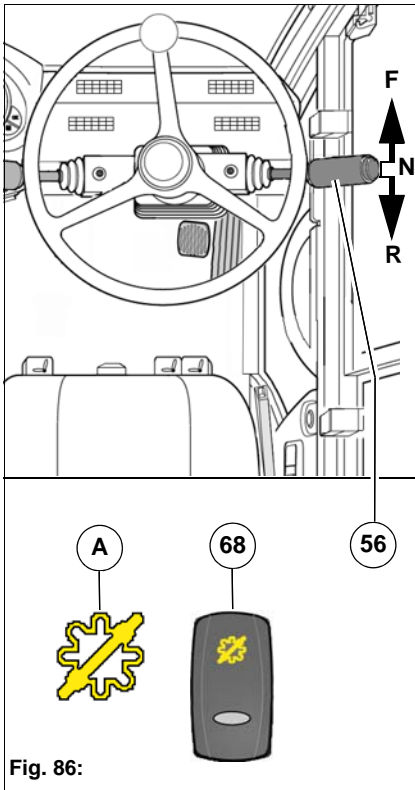

Fig. 86:
6. In order to recover the vehicle, the recovery switch **Fig. 86-68** must be actuated. The telltale in the switch lights up. The yellow symbol **Fig. 86-A** appears in the multifunction display. The accelerator pedal is without function.
- Use two lashing points at the front **Fig. 86-A** and two lashing points at the rear **Fig. 86-B**